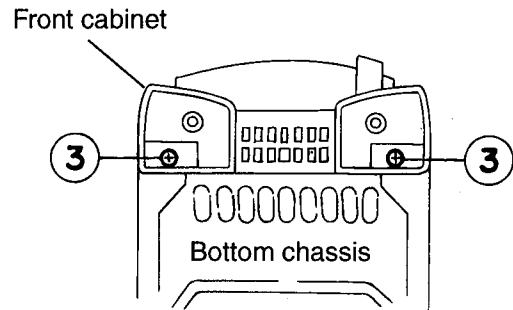

Fig.3
(See Figs. 3~6)
1. After turning the body upside down, remove the two screws ③ retaining the front cabinet assembly (See Fig. 3).